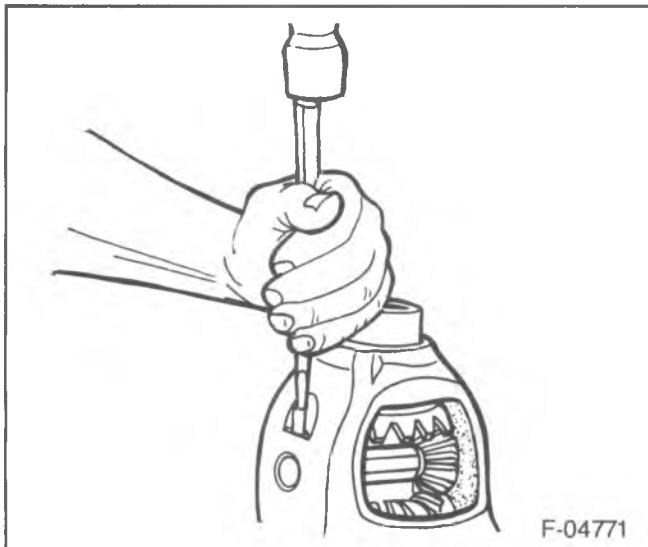
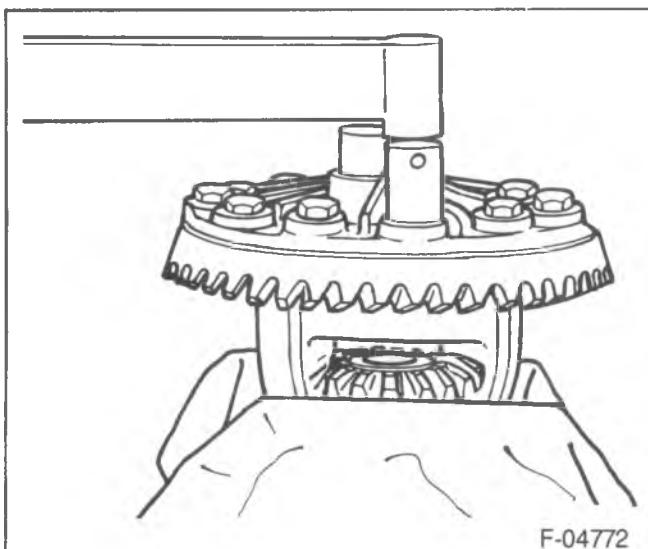

Figure 43—Installing the Lock Pin
Figure 44—Installing the Ring Gear Bolts
- 5. New pinion thrust washers (26).
- 6. Pinion shaft (28).
- 7. Lock pin (29) (figure 43).
- 8. Ring gear (2) to the differential case (22).
- 9. New ring gear bolts (23) (figure 44).